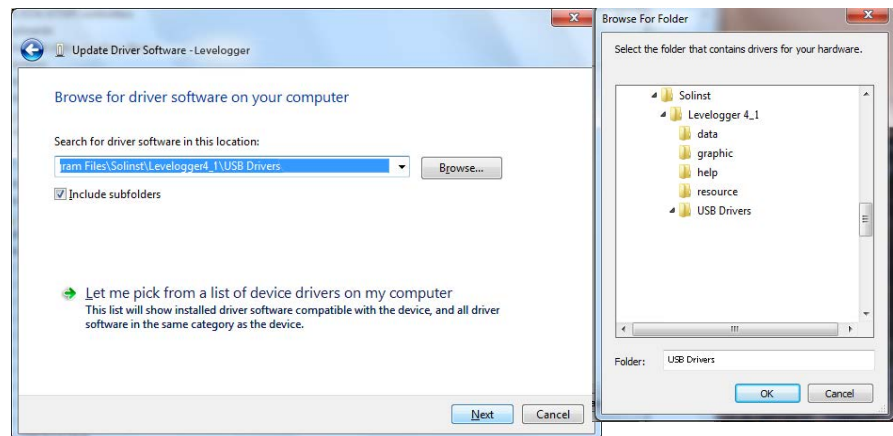

Figure 5-10 Browse for Driver Software
- 5) Click the Browse button and point the navigation window to the provided USB drivers located within the Leveloader4_1 folder (See Figure 5-10). Default destination is: